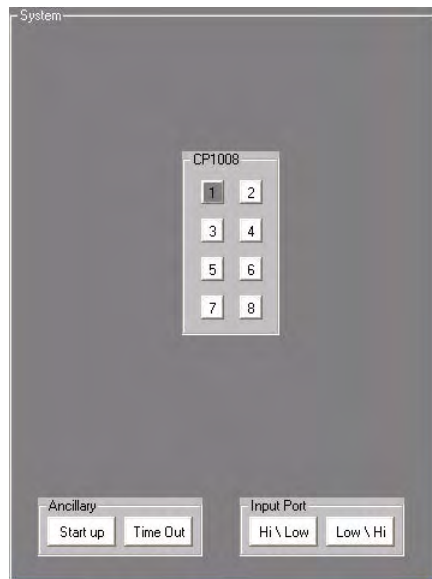

FIG. 19 System window - Button 1 selected
1. Select a button to configure from the *System* window (FIG. 19).
2. Select Button 1 in the *System* window (see FIG. 19 on page 46).